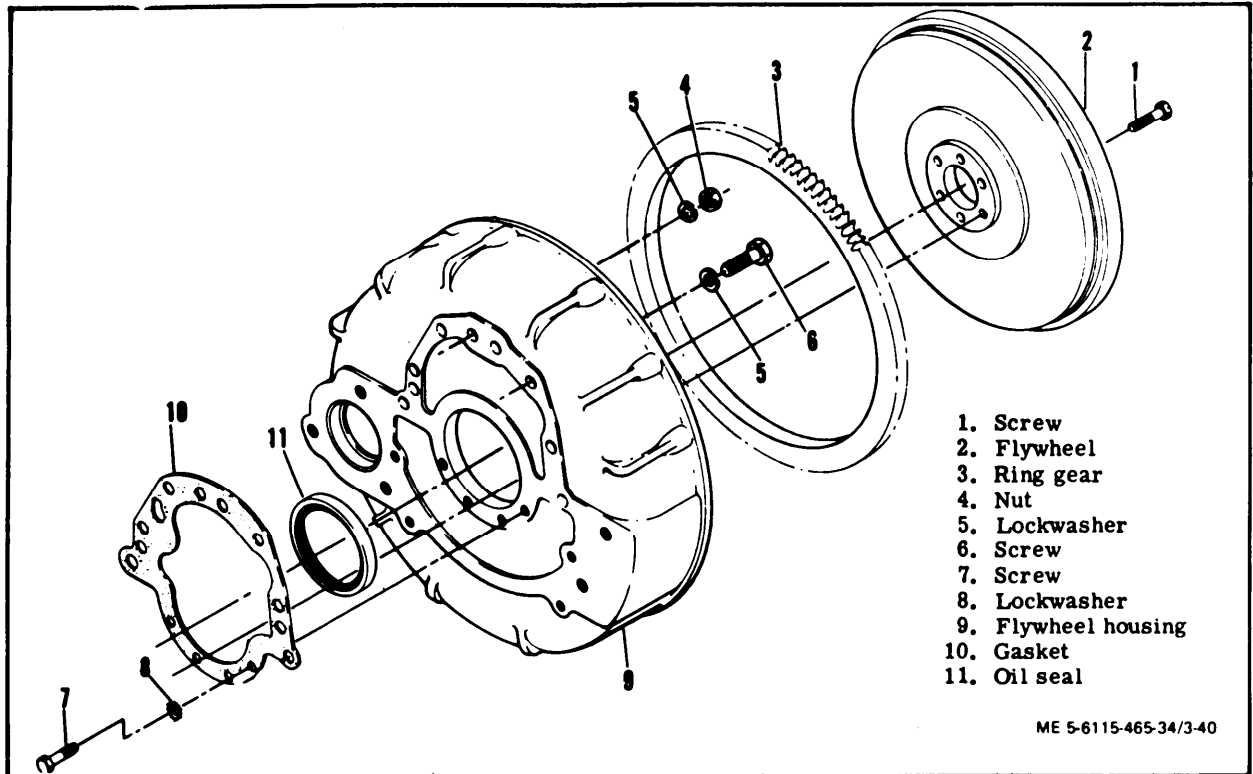

Figure 3-40. Flywheel and Flywheel Housing, Exploded View
(1) Remove oil pan assembly (paragraph 3-36).
(2) Remove screws (1, figure 3-40) to remove flywheel (2) and ring gear (3) as an assembly. Do not remove ring gear unless it is badly damaged and replacement is necessary.
(3) Remove nuts (4), lockwashers (5), screws